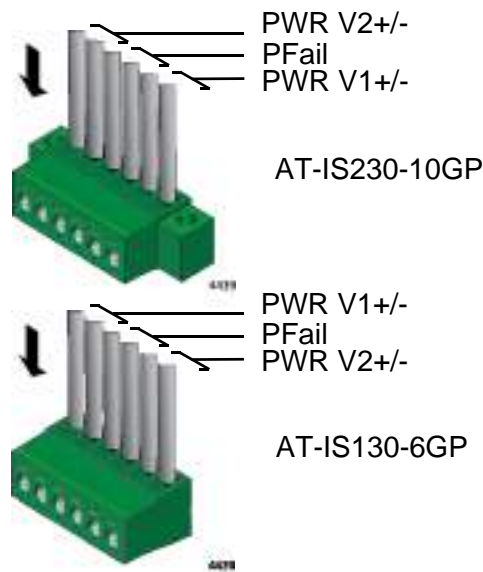

Figure 40. Insert Power Supply and Alarm Wires into Power/Alarm Connector
6. Insert the power wires into the wiring slots for V1+ and V1- for the first power supply. If you are installing the wires for a second power supply, insert them into wiring slots V2+ and V2-. Insert the two alarm wires in the two middle wiring slots - pins 3 and 4. There is no polarity for the alarm wires. Refer to Figure 40.